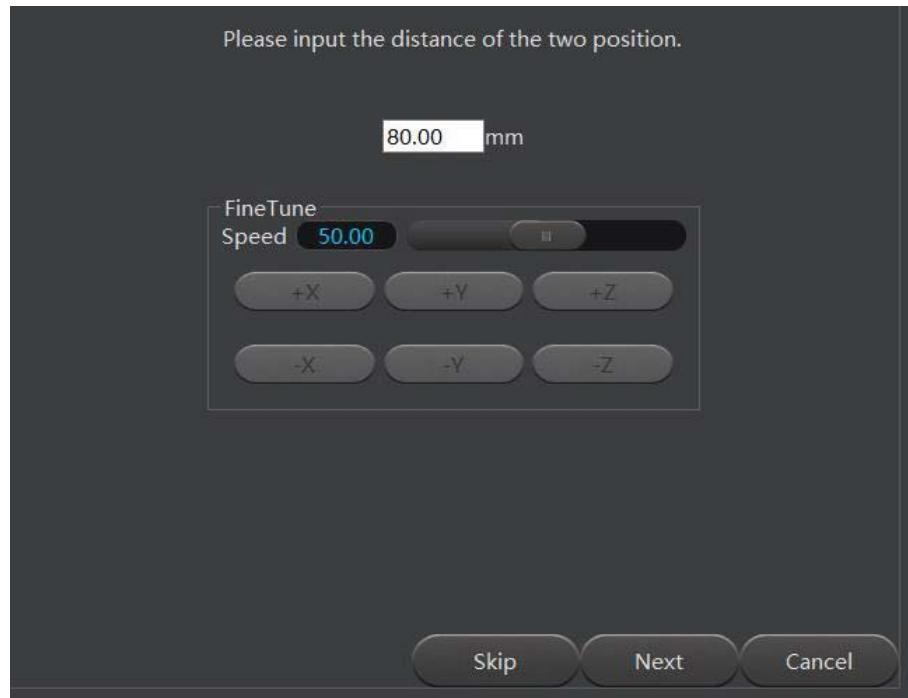

Figure 5.165 Set the distance between the two calibrated points
**Step 7** Click **Next** and set the distance between the two calibrated points, as shown in Figure 5.165.